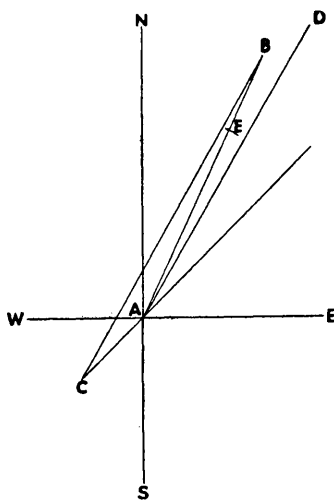

FIG. 48. Diagram illustrating method of calculating allowance to be made for the effect of wind.
1. Draw two lines at right angles on a large sheet of paper to represent the points of the compass, north, south, east and west (see Fig. 48). The point where they intersect will be marked "A."